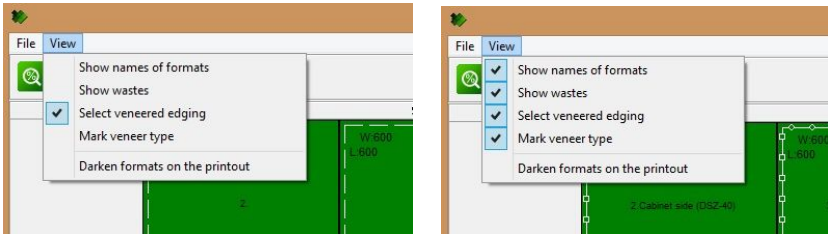

Fig. 81 – effects of different view configurations
- **'Show veneered edges'** - displayed veneers as a white dashed line (Fig. 81);
- **'Mark veneer type'** – designates various types of veneers with different lines (Fig. 81);